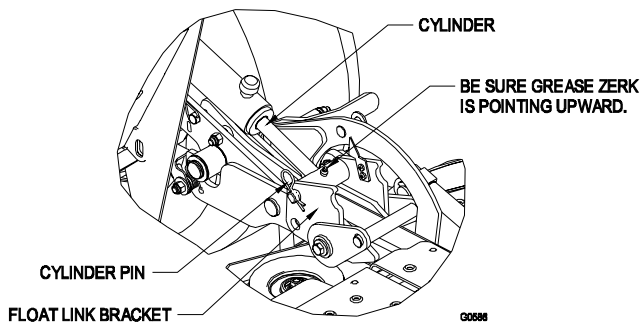

**FIGURE 1**
- 3.1.2 Rotate the fold lock lever, located on the front frame, in the unlocked position. (See Figure 1).
- c) Rotate the fold lock levers, located on each side of the deck, to the unlocked position. (See Figure 1)